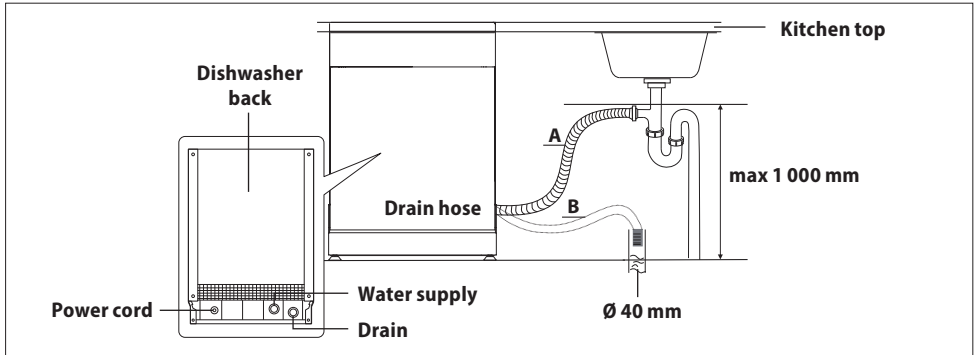

Fig. 20
5. Connect the drain hose according to Fig. 20.
Connect the drain hose to the waste pipe with a minimum diameter: 40 mm (Fig. 20). Make sure the drain hose is not bent or squeezed to prevent slowing down or stopping of the water flow.
The height of the waste pipe must be less than 1,000 mm (Fig. 20) and the drain hose should not be submerged in water. Secure the drain hose properly to prevent unwanted loosening from the waste pipe.